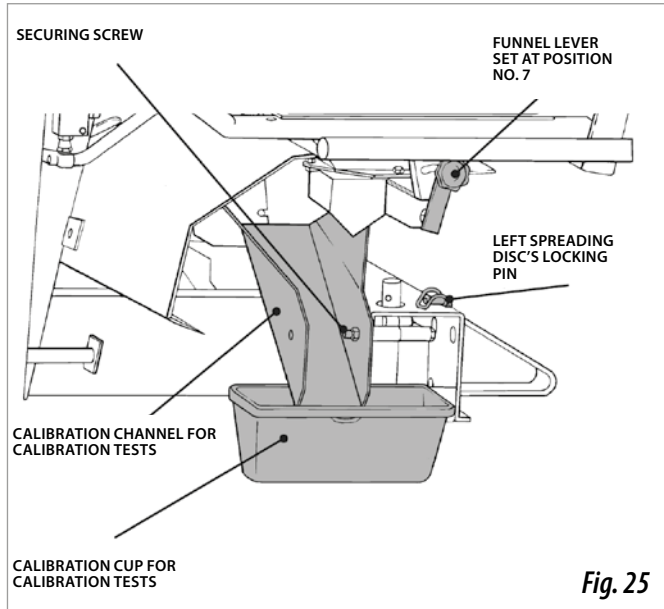

Fig. 25
1. Remove the left spreading disc (in the drive direction) by freeing the ring pin (1, Fig. 26) which is at the lower part. Remove the left spreading disc (in the drive direction) by freeing the ring pin (1, Fig. 25) which is at the lower part.